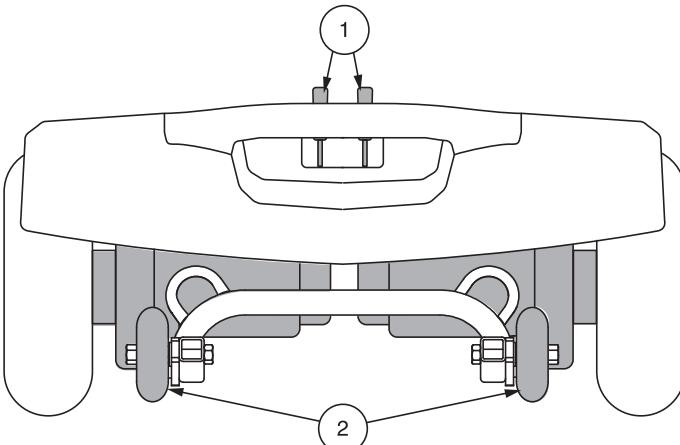

Figure 9. Rear Components - Jazzy ZTS
For your convenience, your travel scooter has a manual freewheel lever on each motor. Manual freewheel levers enable you to disable the drive system in order to maneuver the Travel Scooter manually. See **figure 9**.
1. Locate the levers on the rear section of the scooter. See **figure 9**.